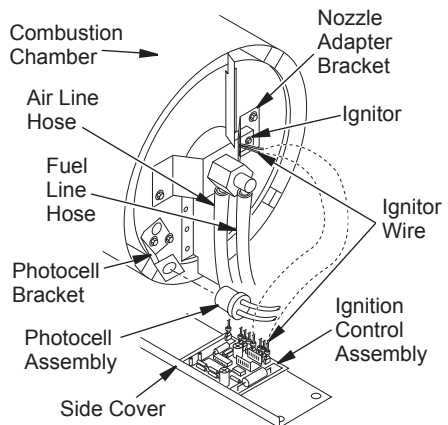

Figure 21 - Disconnecting Ignitor Wires from Ignition Control Assembly
4. Disconnect ignitor wires from ignition control assembly (see Figure 21). Pull the ignitor wires up through the hole in the lower shell.
5. Disconnect fuel line hose and air line hose. Remove photocell from photocell bracket (see Figure 21).